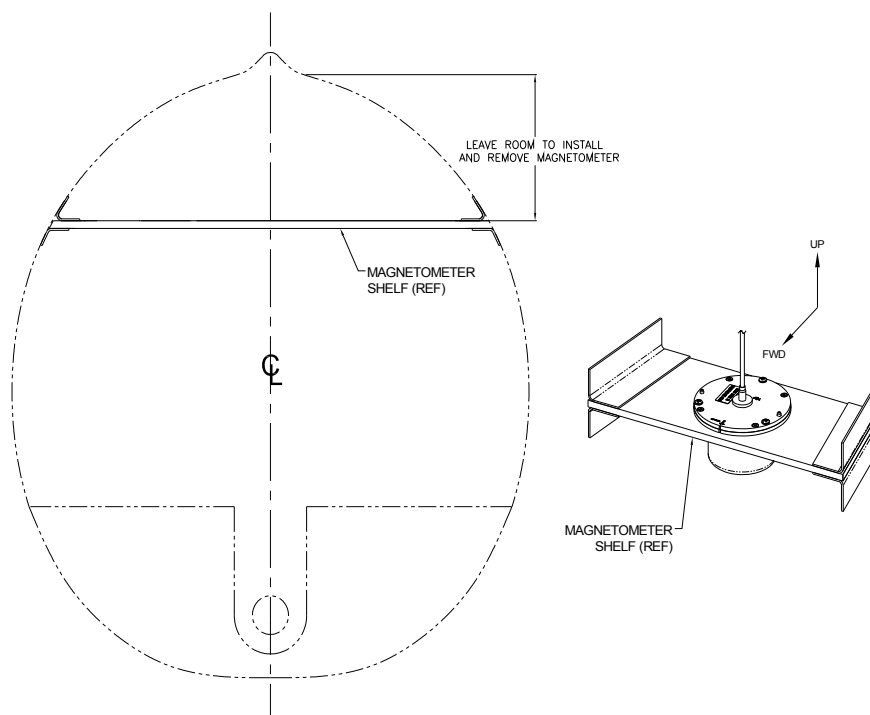

Figure C-20 View Looking AFT At Recommended Magnetometer Location
2. In determining a shelf location, ensure there is enough room above the shelf to install or remove the magnetometer, as well as provide clearance for the associated cable harness as demonstrated in Figure C-20.